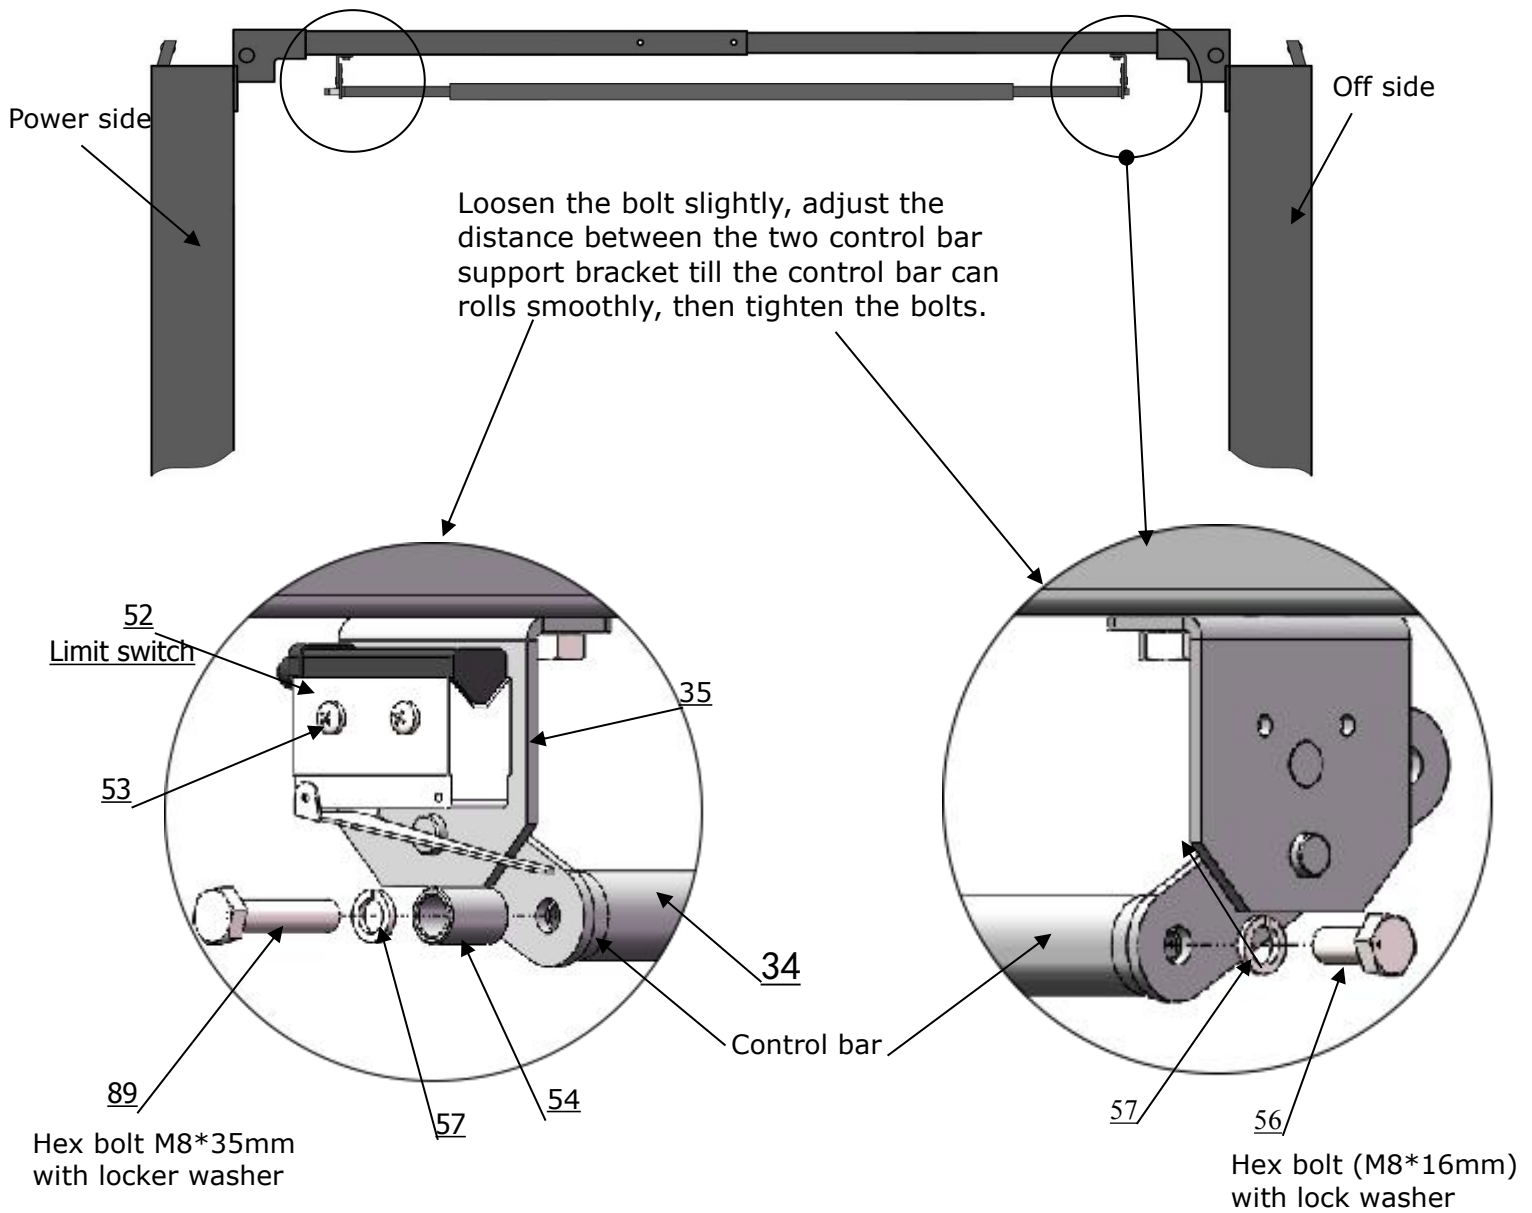

Fig.28
I. Install the limit switch control bar (See Fig. 28).